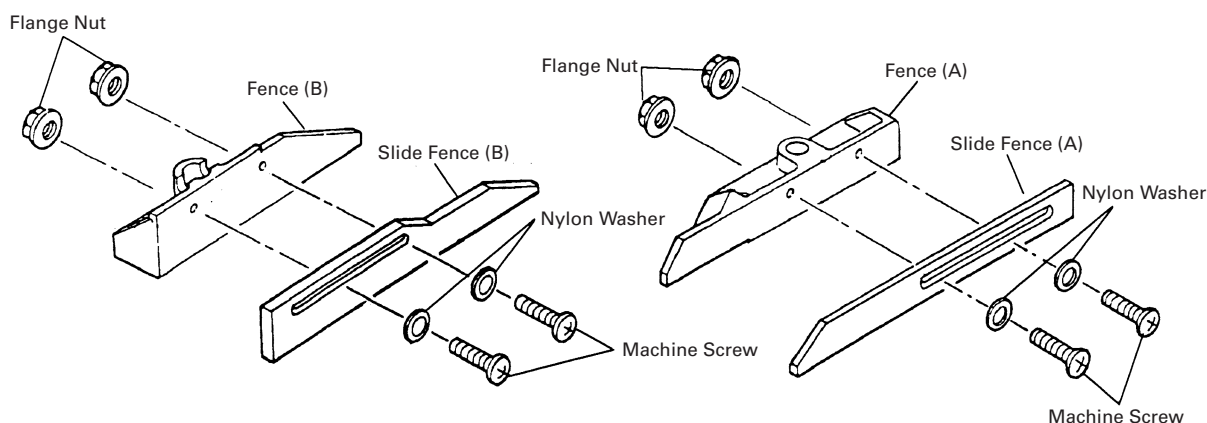

Fig. 20
- (1) Set slide fence (A) and slide fence (B) on fence (A) and fence (B) of the base.
- (2) To attach use the four machine screws with nylon washers and flange nuts as shown in Fig. 20.
- (3) Adjust slide fence (A) and slide fence (B) to stabilize the workpiece. Adjustable range of slide fence (A) and slide fence (B) is from 0 to 3-1/32" (0 to 77mm)).
- (4) Confirm the position of slide fence (A) and slide fence (B) on fence (A) and fence (B) with four machine screws tightly so slide fence (A) and slide fence (B) do not move (see Fig. 20).